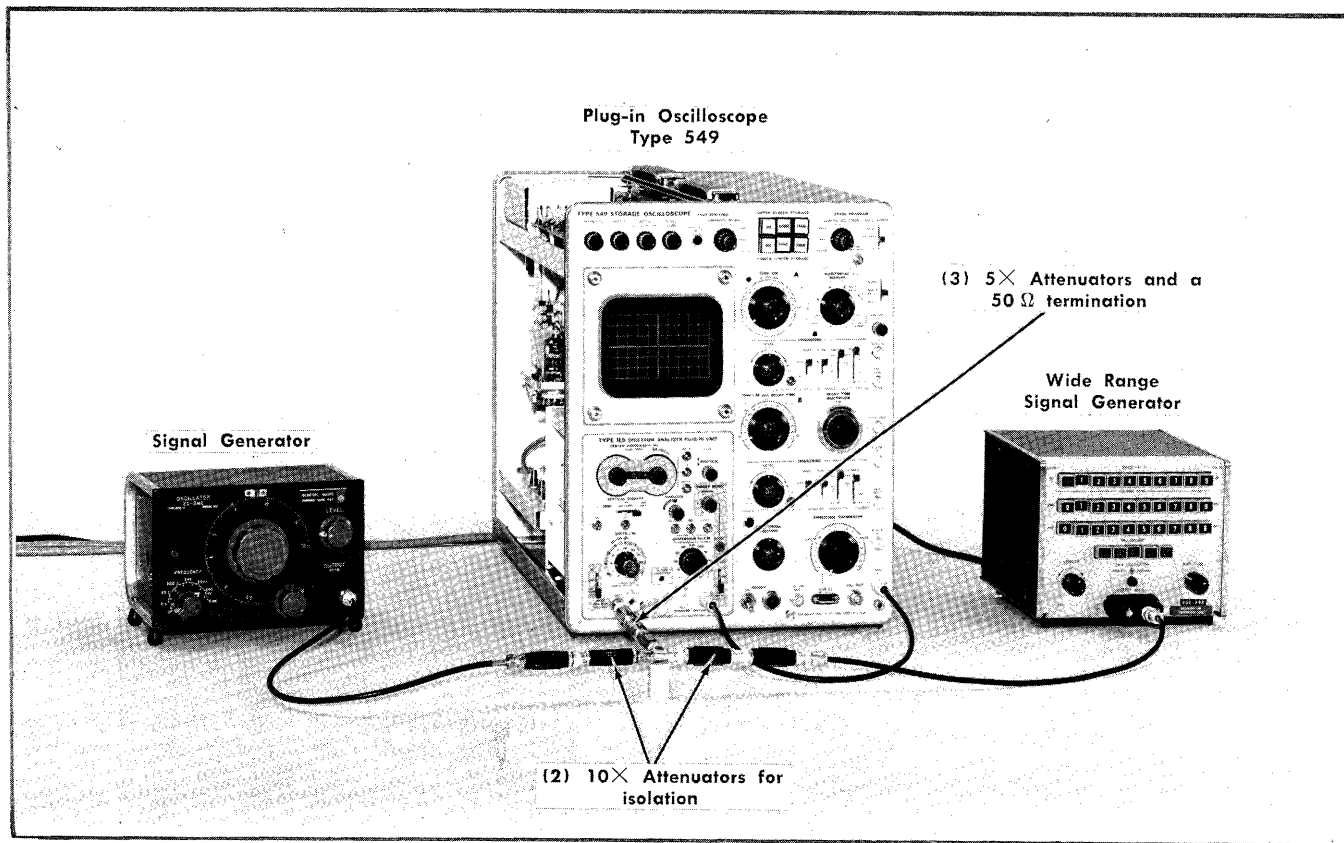

Fig. 6-22. Equipment setup to check intermodulation distortion.
- Equipment setup is shown in Fig. 6-22.